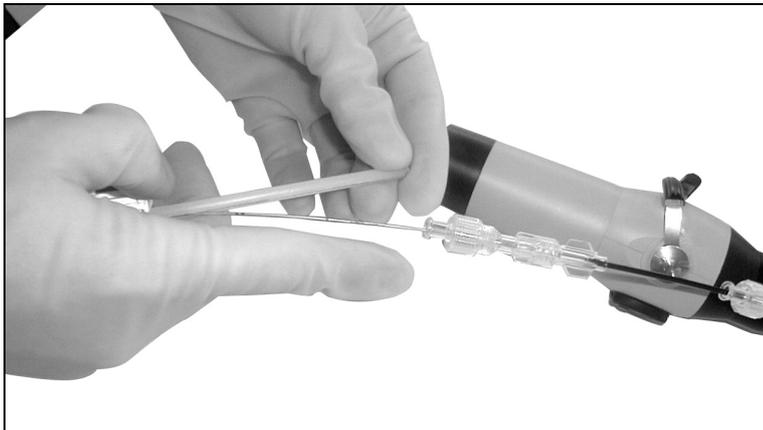

Fig. 20. Removing the mechanical stop on the flexible needle of the UA0034 flexible biopsy system
8. In order to set the desired penetration depth for the biopsy, remove the mechanical stop on the needle, see Fig. 20. The flexible biopsy needle is now free to move.